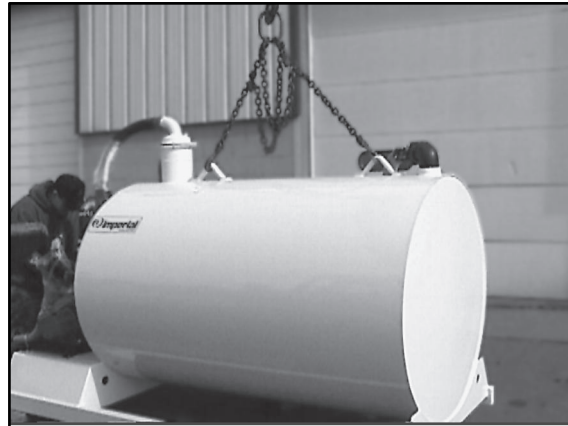

Figure 2.2 Hoisting Slide-in Unit for Installation in truck bed
Use hoist with at least a one (1) ton capacity rating to lift your slide-in unit into the truck bed. To rig for lifting, fasten the hoist chains to the built-in lift hooks on the slide-in unit (Figure 2.2).